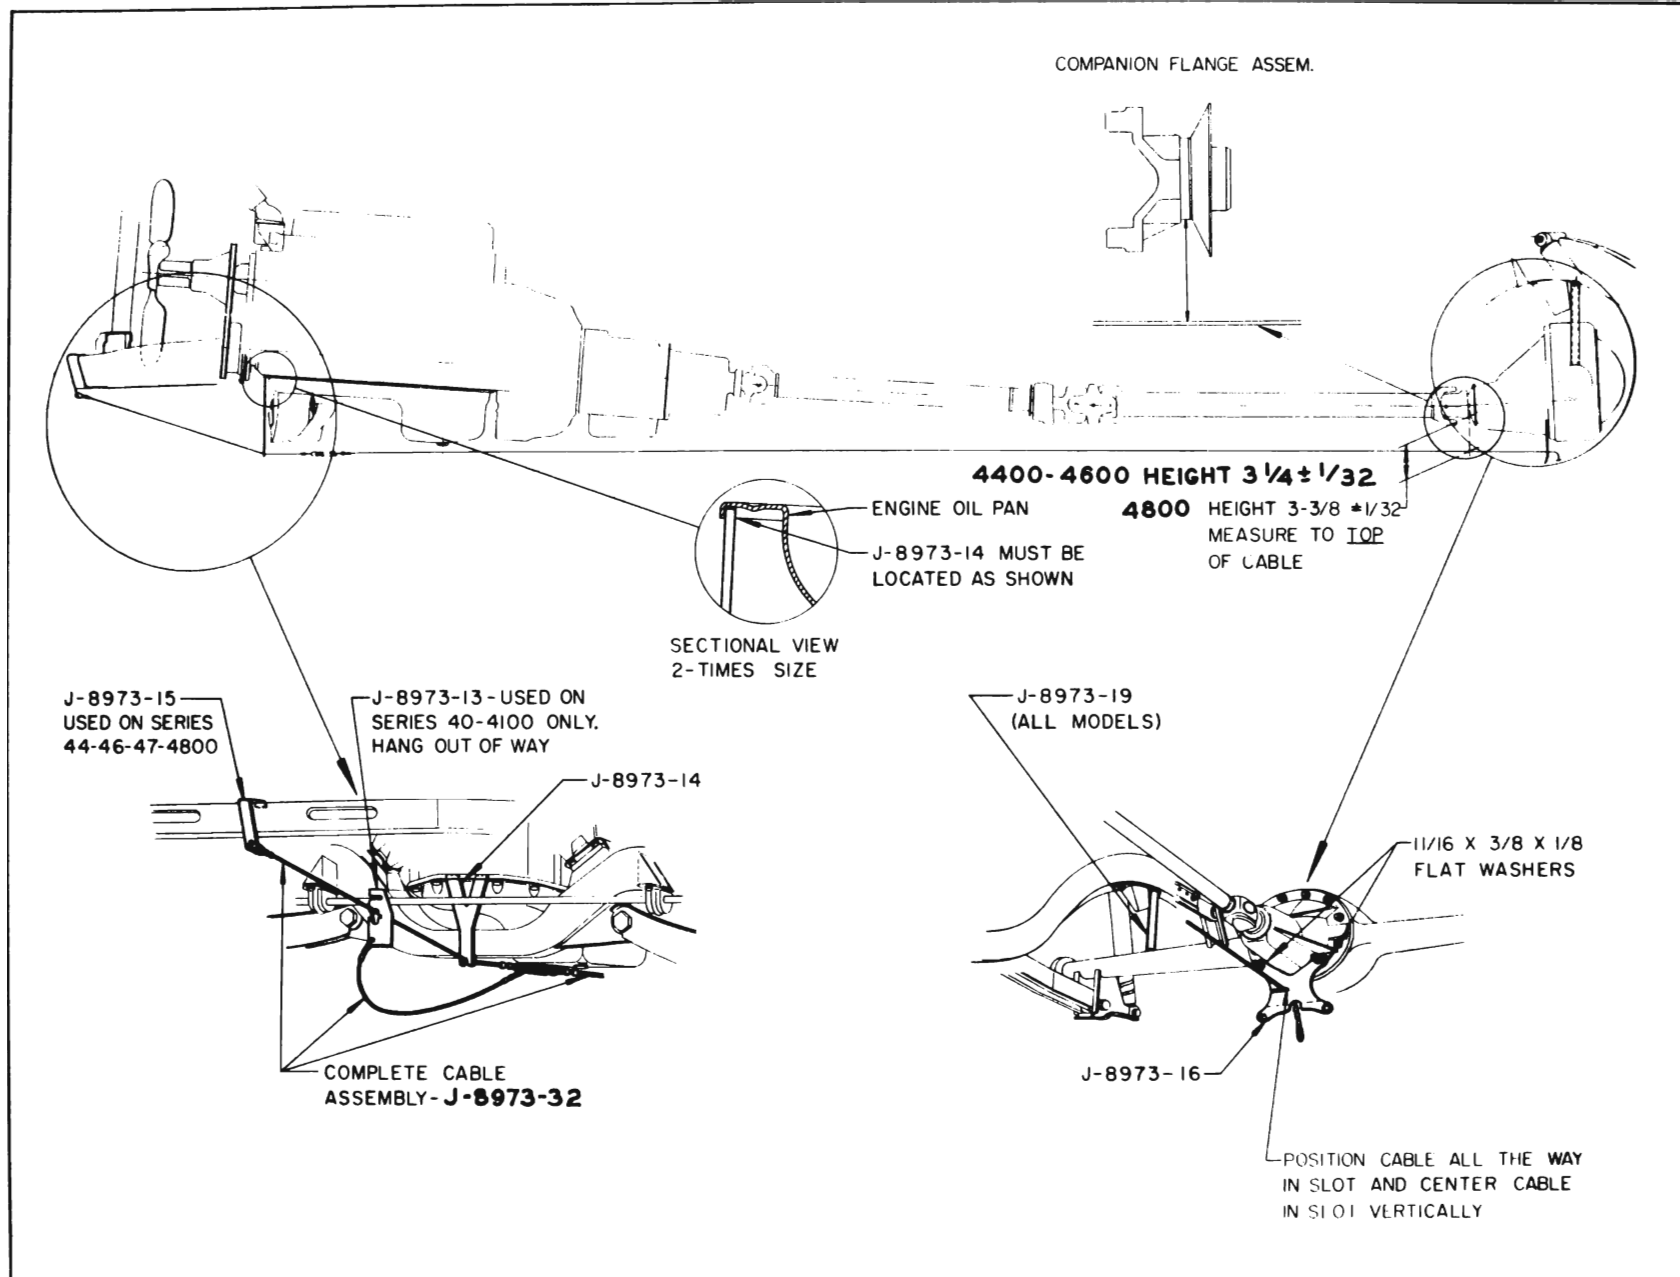

Figure 6-73—Checking Rear Universal Joint Angle—4400-4600-4800 Series
A simple method has been developed for measuring rear universal joint angle using a spring-loaded steel cable stretched between the front of the chassis and the rear axle carrier. When the rear universal joint angle is adjusted correctly, this steel cable will clear the underside of the pinion flange by a definite amount. Therefore, if this single direct measurement is within specified limits, the rear universal joint angle is correct; if this measurement is out of limits, the joint angle is not correct. See Figure 6-73.
1. Raise car, preferably on a drive-on hoist. Install Alignment Height Tubes J-8973-19 by raising the rear of the body slightly with one hand while inserting the upper end of the tube over the head of the axle bumper rear bolt, with the lower end resting on the axle housing. See Figure 6-73. If the body does not come down firmly on the tubes, add weight in the trunk until the tubes are held tightly.
2. Remove two differential carrier mounting nuts, one on each side of the lowest nut. Install two special flat washers over studs, then install Rear Bracket J-8973-16 with bent edge toward front and slot to the right, using nuts just removed. See Figure 6-73.
4. Position Engine Height Plate J-8973-14 vertically with wide end centered against front flange of engine pan. Pull cable down and place in lower notch of plate. See Figure 6-73.